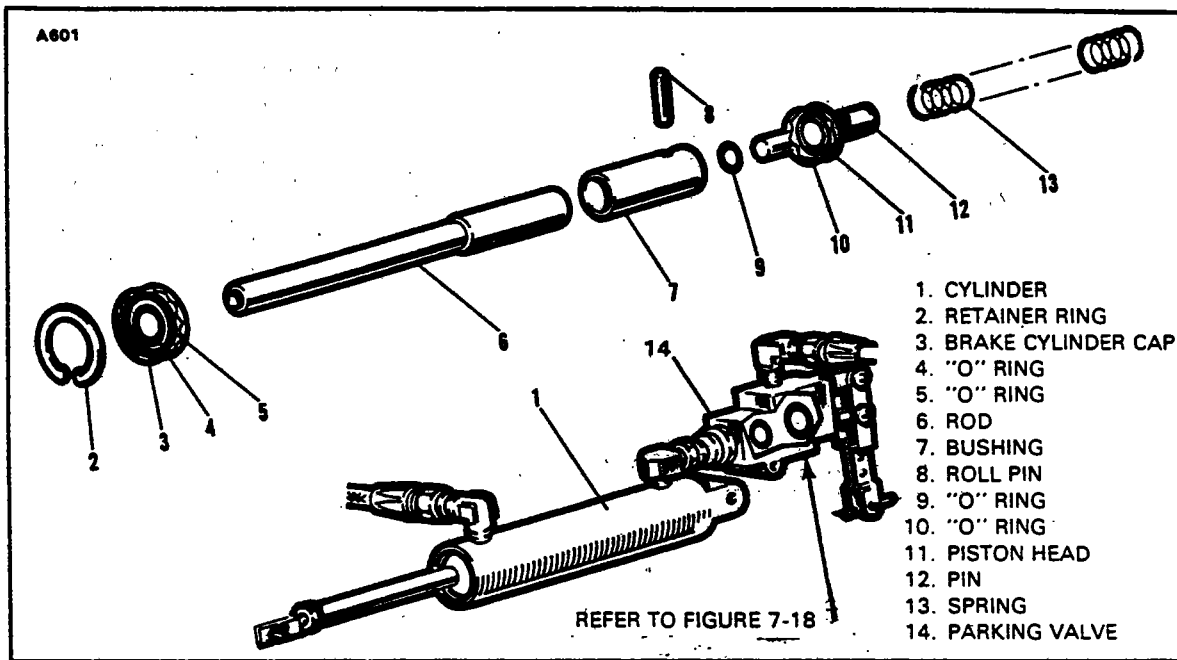
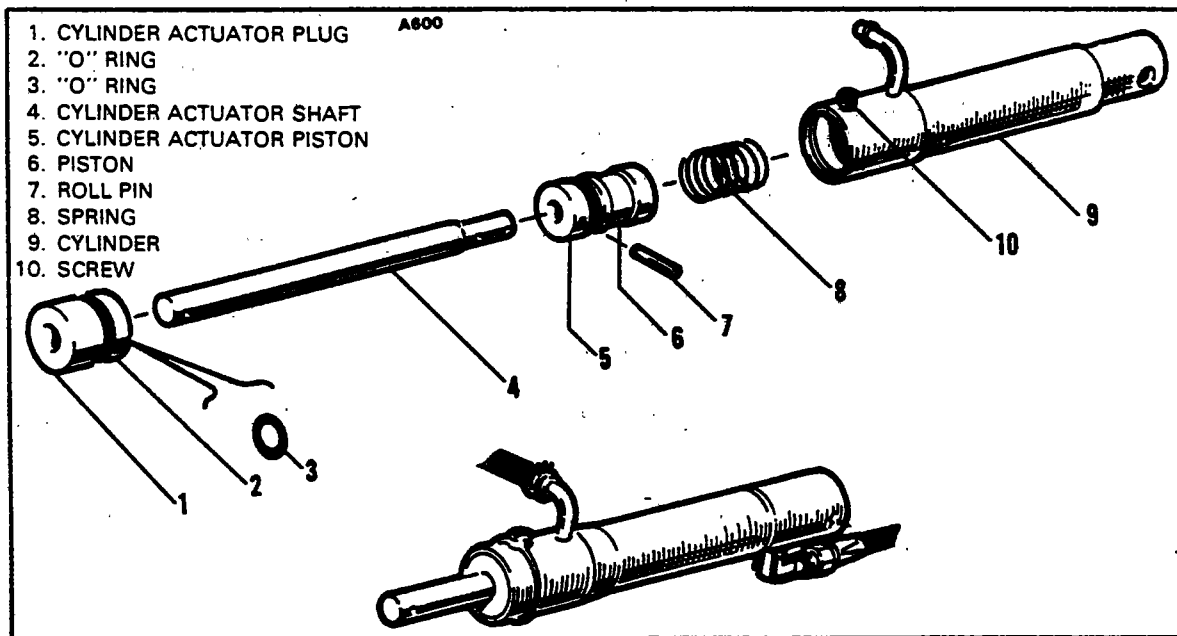

Figure 7-15. Brake Master Cylinder (Hand Brake)
Figure 7-16. Brake Master Cylinder (Hand/Parking Brake)
- a. PA-28-150, -160, Serial Nos. 28-1 to 28-250 incl. (Refer to Figure 7-15.)
2. To disassemble the cylinder, first remove the piston rod assembly by removing the retainer ring (2) from the annular slot at the rod end of the cylinder. Draw the piston rod assembly from the cylinder. Remove the spring (13) from the cylinder.
3. The piston rod assembly may be disassembled by first removing the clevis end from the piston rod (6) and then sliding off the brake cylinder cap (3).
4. Remove the roll pin (8) from the bushing (7) thus releasing the piston head and O-rings (9 and 11).
- b. PA-28-140, Serial Nos. 28-20002 to 28-21036 incl; PA-28-150, -160, -180 Serial Nos. 28-251 to 28-2700 incl; PA-28-235, Serial Nos. 28-10003 to 28-10679 incl. (Refer to Figure 7-16.)
2. Cut the safety wire and remove screw (10) that secures the plug (1) in the end of the cylinder (9).
3. Remove the plug (1) and piston assembly from the cylinder by pulling the cylinder actuator shaft (4) from the cylinder.
4. Remove the spring (8) from within the cylinder.
5. Remove the roll pin (7) from the cylinder actuator piston (5) and pull off the piston.
2. To disassemble the cylinder, first remove the piston rod assembly by removing the snap ring (11) from the annular slot at the rod end of the cylinder. Draw the piston rod assembly from the cylinder.
3. The piston rod assembly may be disassembled by first removing the small snap ring (2) securing the retainer bushing (3), spring (4), piston (6), seal (7), gland (9), and, if desired, the large retainer spring (13).
- a. PA-28-150. -160. Serial Nos. 28-1 to 28-250 incl. (Refer to Figure 7-15.)
b. PA-28-140, Serial Nos. 28-20002 to 28-21037; PA-28-150, -160, -180, Serial Nos. 28-251 to 28-2700 incl; PA-28-235, Serial Nos. 28-10003 to 28-10697 incl. (Refer to Figure 7-16.)